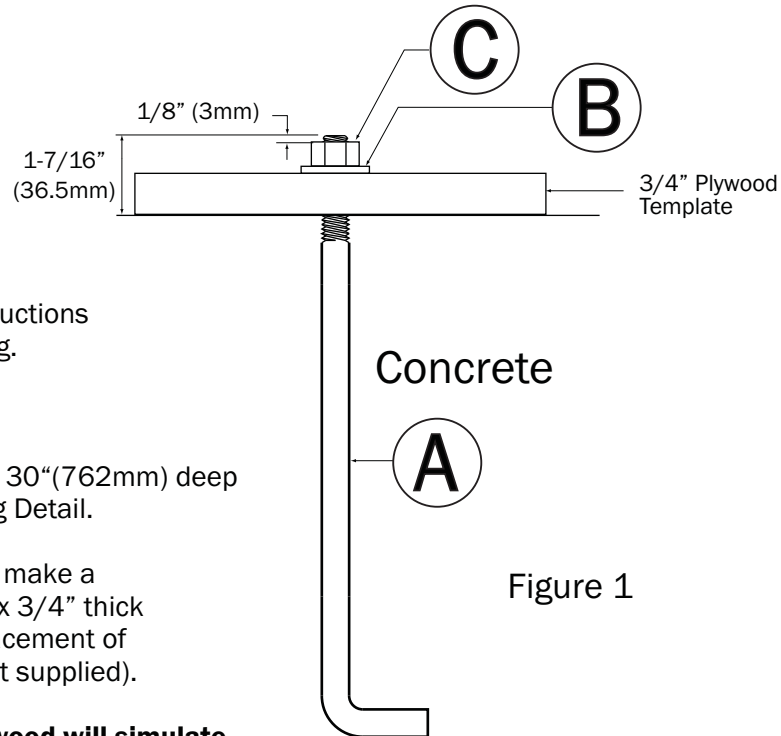

Figure 1
3. From center of plywood, mark (4)holes from Base Plate onto plywood and drill 1/2" thru holes.
4. Insert (4)1/2" Anchor Bolts(A) into holes in plywood and secure with (4)Flat Washers(B) and (4)Hex Nuts(C).
! **Tighten Hex Nuts(C) onto Anchor Bolts until thread extends 1/8" beyond nut . (See Figure 1).**
6. After concrete has cured, loosen and remove Hex Nuts (C) and Flat Washers(B). Remove Plywood Template.
7. Align holes in Base Plate of Spring Rider with Anchor Bolts(A) in concrete.
8. Secure Spring Rider to concrete footer with (4) Flat Washers and (4) Hex Nuts.
5. Once concrete has cured, secure Spring Rider and Inground Footer(A) together using (4) 3/8" x 1-1/4" Bolts(B), (8) 3/8" Flat Washers(C) and (4) 3/8" Hex Nuts(D). See Figure 1.